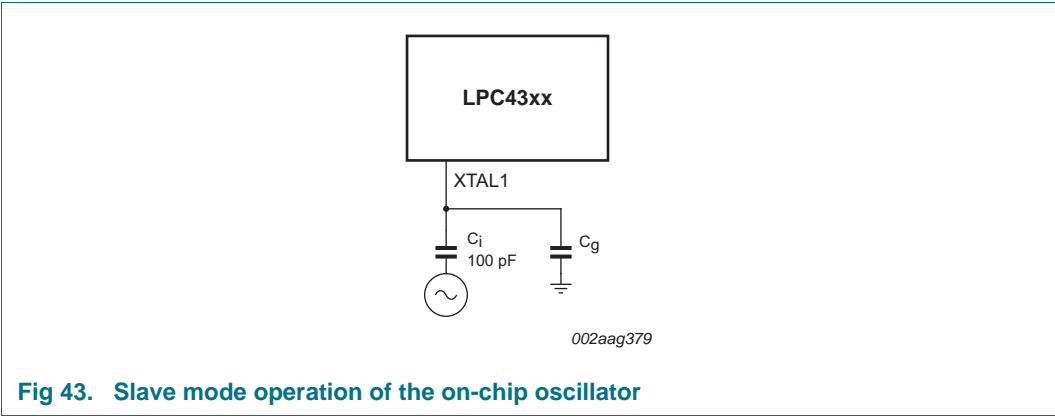

Fig 43. Slave mode operation of the on-chip oscillator
- In slave mode, couple the input clock signal with a capacitor of 100 pF (C_C in Figure 43), with an amplitude of at least 200 mV (RMS). The XTAL2 pin in this configuration can be left unconnected.